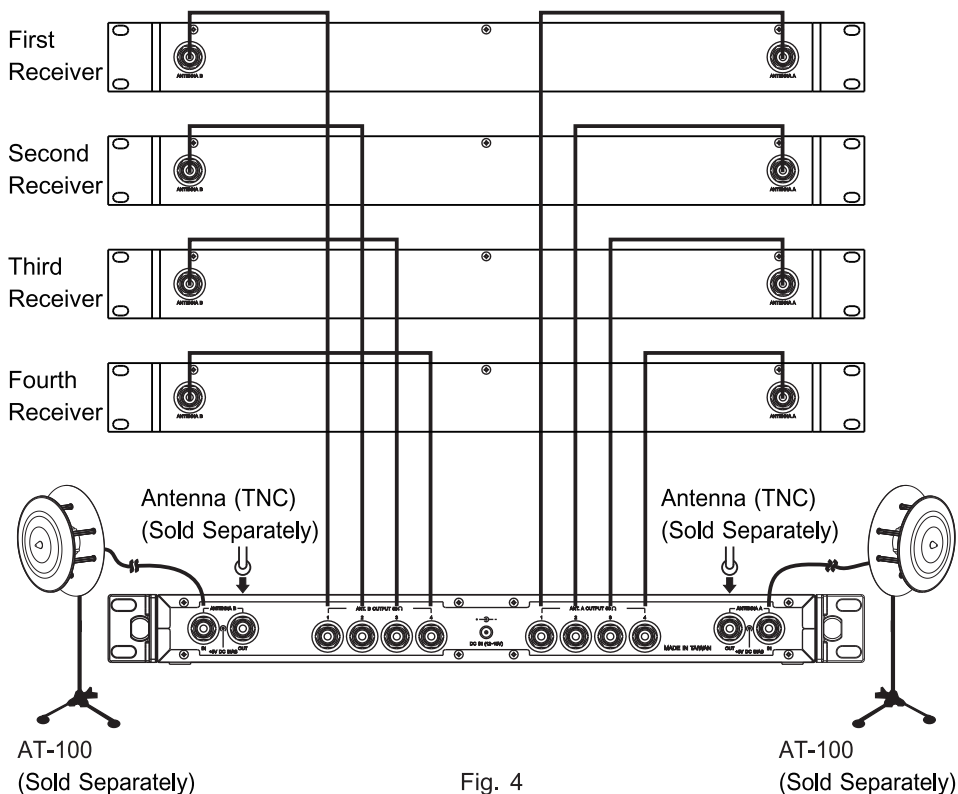

Fig. 4
- (A) Use rack mount brackets and install this system with receivers on an EIA standard cabinet.
- (B) Use receiver antennas or AT-100's and install onto antenna-in connectors, see Fig. 4.